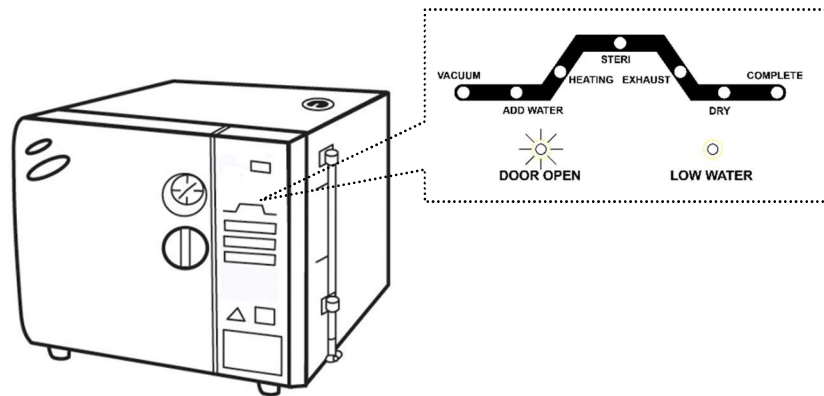

Figure 22
- F. Turn on the “ POWER ” switch to the “ I ” (ON) position, and the power indicator should turn on. The “ DOOR OPEN ” indicator should go off.
**WARNING:** The door must be closed completely while the equipment is operating. If the “ DOOR OPEN ” LED indicator turns on as shown in Figure 22, it means that the door is not properly closed.